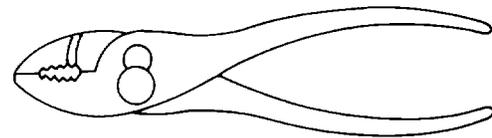

Figure 4-41. Slip-Joint Pliers
(1) *Slip-joint pliers.* The slip-joint combination pliers shown in figure 4-41 have serrated (grooved) jaws, with a rod-gripping section, a cutting edge, and a pivot. The serrated jaws and rod-gripping section are used to hold objects. The cutting edge permits the cutting of soft wire and nails. However, cutting hard materials or large gauge wire will spring the jaws, making the pliers useless. The pivot is used to adjust the jaw opening to handle large or small objects.